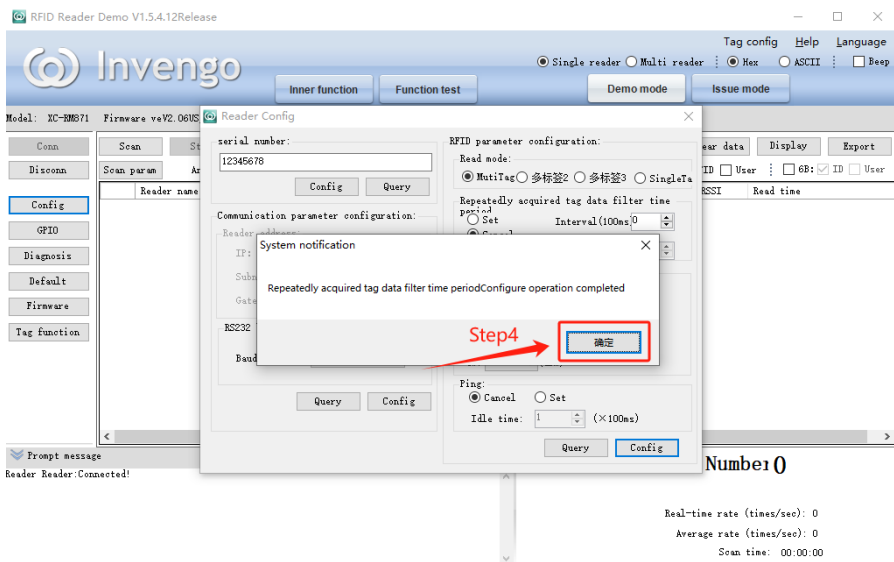

Figure 5-8 Power Setting Diagram 3
- 3) After the interface shown in Figure 5-8 pops up, click “OK” to complete the process.